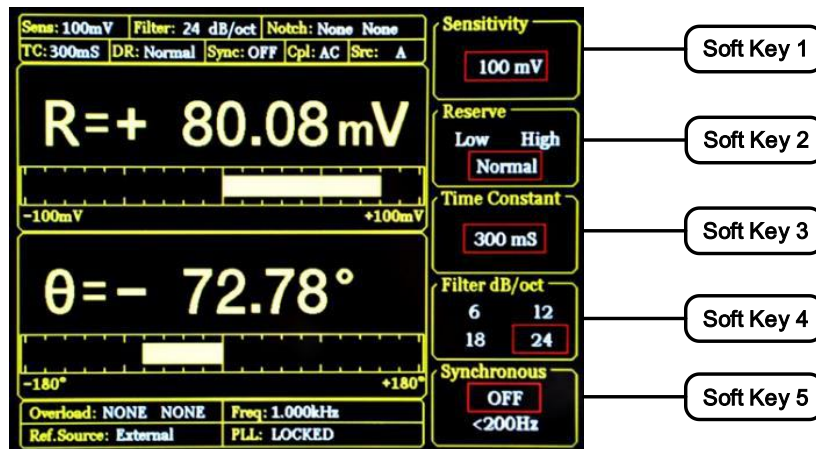

Fig.91 GAIN/TC Submenu
5. Press [GAIN/TC] in front panel and then enter the submenu shown in Fig.91.
Press [Soft Key 1] to choose <Sensitivity> and then it will be highlighted. Spin the knob to change the value of sensitivity so that there is no overload and the full scale is the maximum. In this case, we set the parameters as Fig.91. Then OE1022 measures the sine signal and the result is $R=80.08\text{ mV}$, $\theta=-72.78^\circ$.